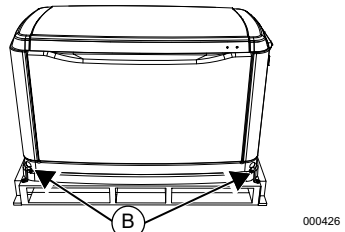

Figure 2-2. Pallet Bracket Locations
3. See **Figure 2-2**. Remove bolts and pallet brackets (B). Exercise caution when removing generator. Dragging it off pallet will damage base. The unit must be lifted from wooden pallet to remove.